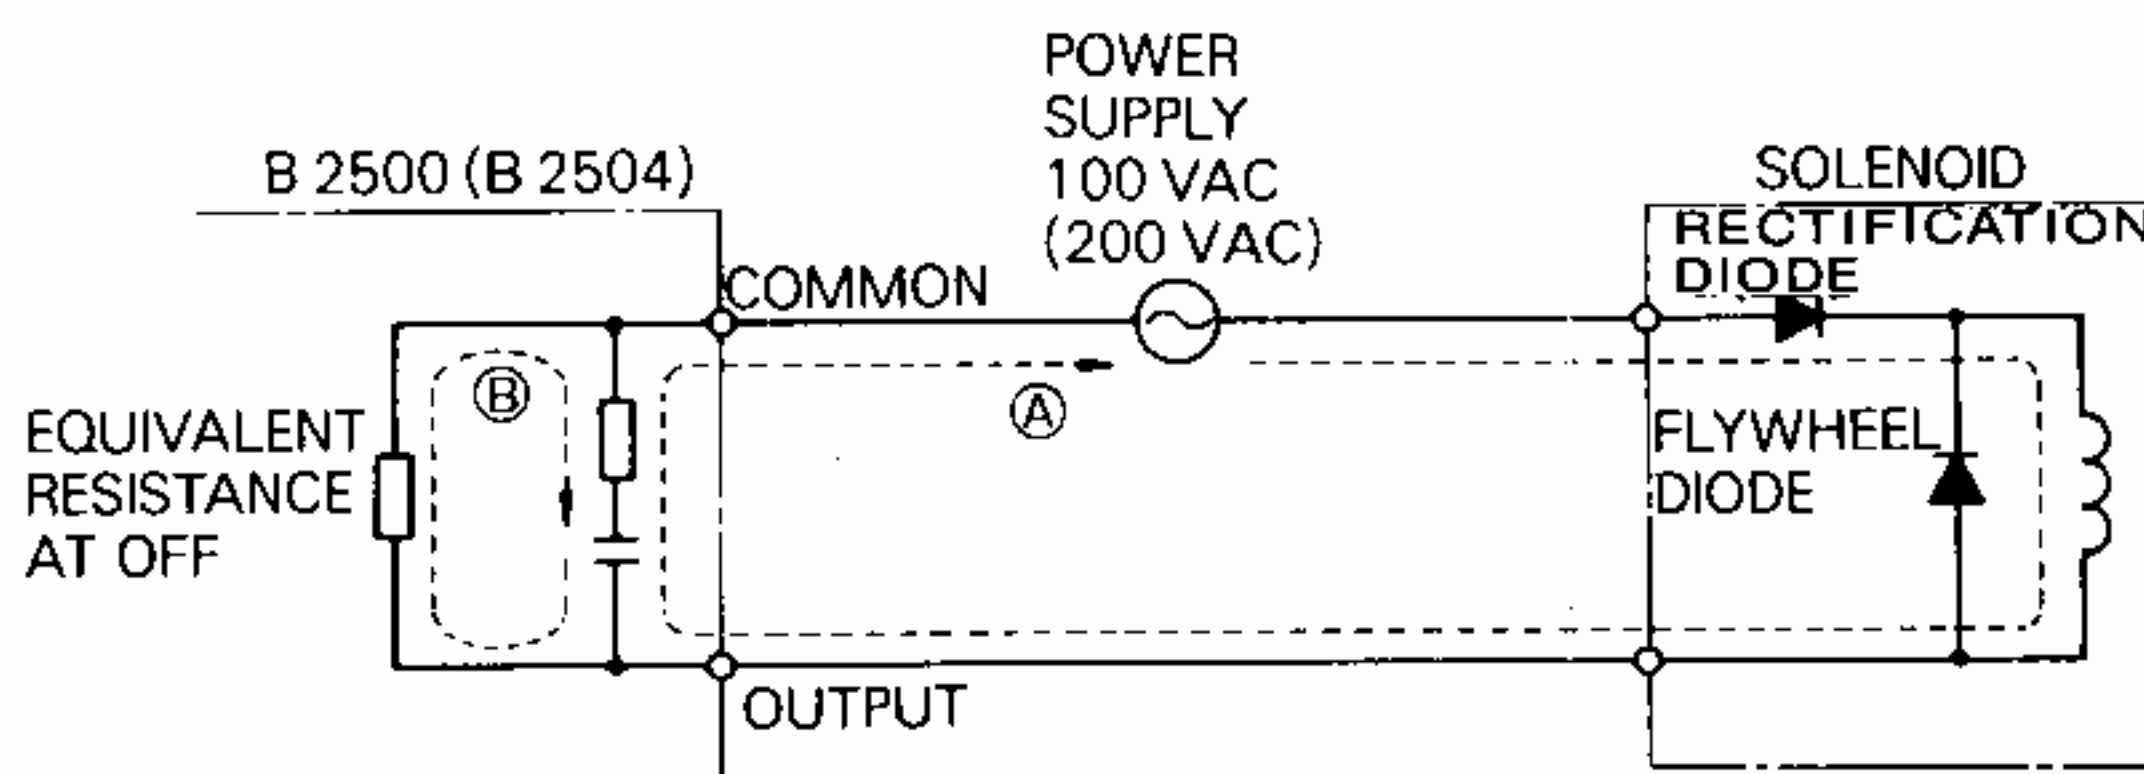

Fig. 8.15 Connection of Solenoid with Diode
When output of AC output module is OFF, current (A), shown by a dotted line, flows at half-cycle of the power supply to be a forward-biased rectification diode, and is charged on capacitors. See Fig. 8.15.